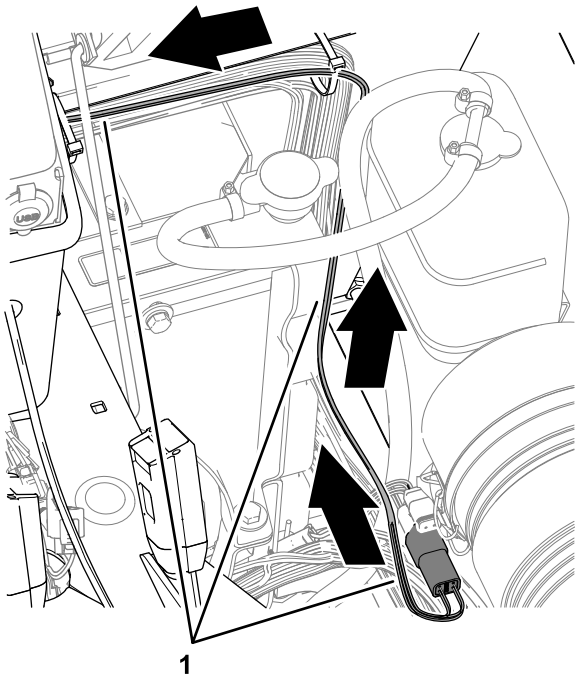

Figure 28
1. At the right side of the radiator, rout the ISO-CAN bus harness up, along the machine wire harness, and toward the center console (Figure 28).